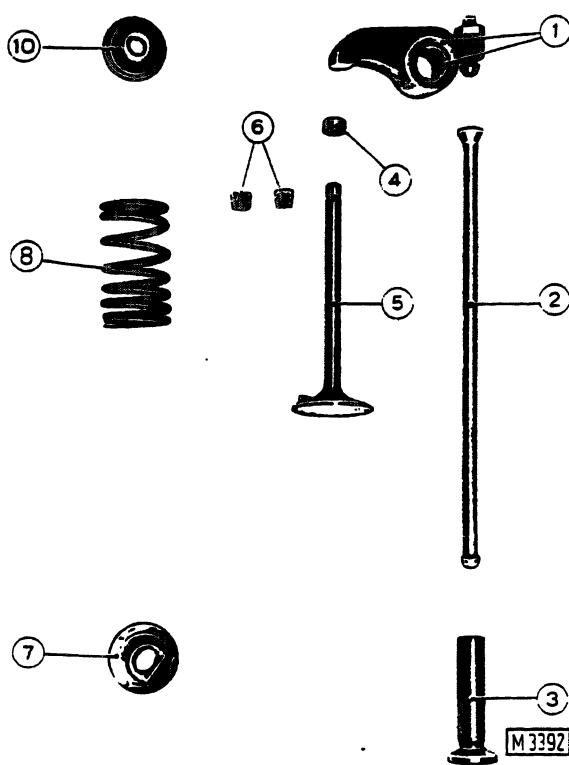

Fig. 25 - Valve mechanism components.
- remove cap (4, Fig. 25) from valve stem;
- compress springs with tool 75291050 (Fig. 26) and remove upper retaining cup split cone keepers (6, Fig. 25);